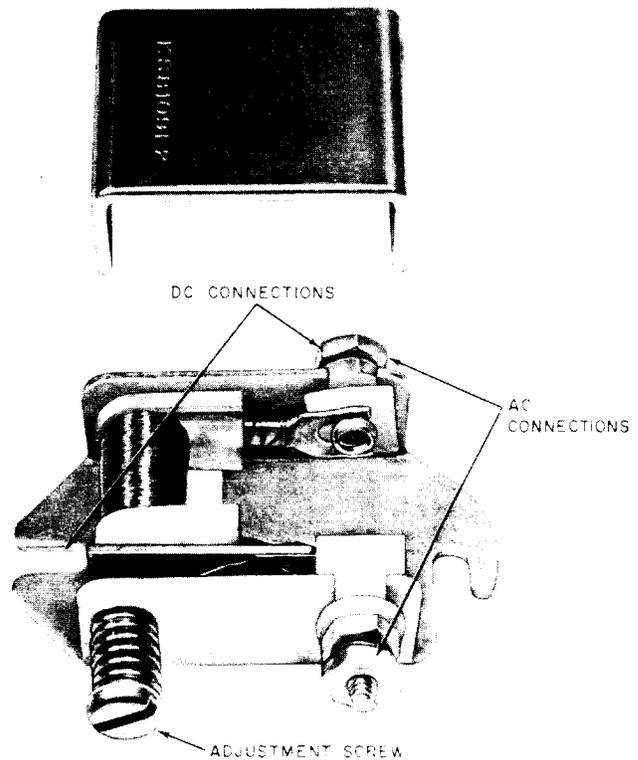

Fig. 6—KS-8108L2, KS-8109L2, or KS-8110L2 Buzzer
2.10 The KS-8108L2, KS-8109L2, and KS-8110L2 buzzers (Fig. 6) replace the List 1 buzzers. They have a single coil only and may be used for ac or dc operation (Fig. 24). With dc operation, the Lists 1 and 2 buzzers are interchangeable.
2.11 The volume on KS-8108, KS-8109, and KS-8110 type buzzers can be set with the adjusting screw (Fig. 6).